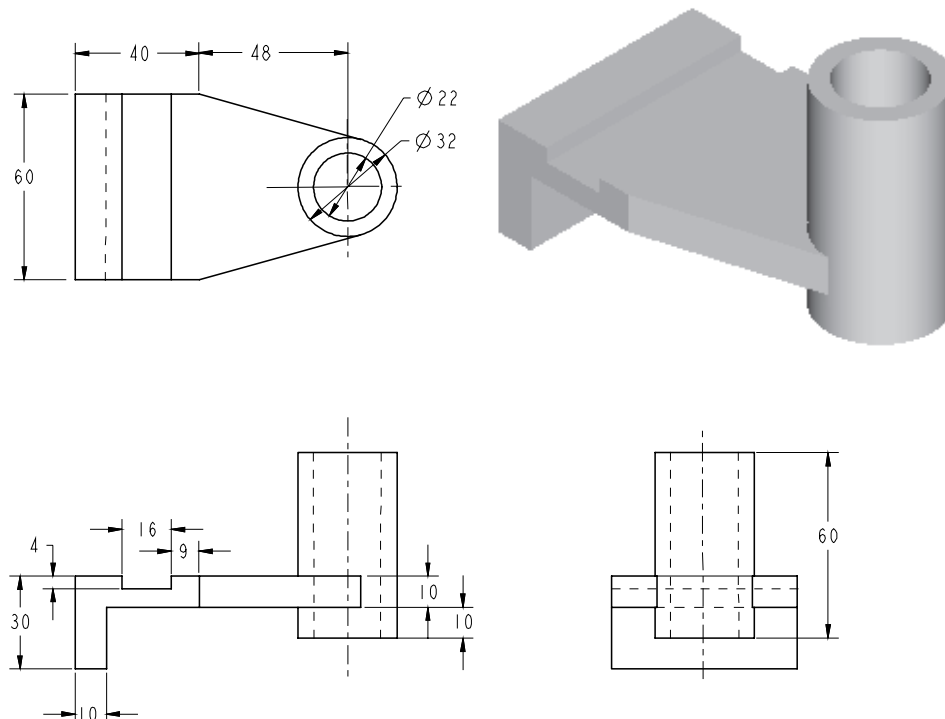

Figure 4-92 Top, front, right-side, and isometric views of the model
In this tutorial, you will create the model shown in Figure 4-92. This figure also shows the front, top, and right-side views of the solid model.
- a. Examine the model and then determine the number of features in it, refer to Figure 4-92.